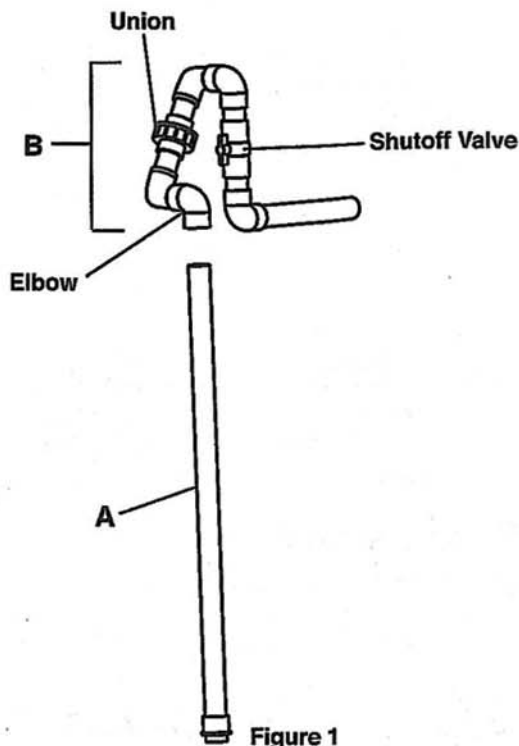

Figure 1
**Step 4:** Insert the preassembled 40" PVC pipe with pipe adapter (Figure 1, part A), pipe adapter end first, into the pump. Lower the pump into the pump chamber of the housing. Note: The chamber is designed to handle either one or two STEP pumps. A single pump can be located in either side of the chamber. Place a mark on PVC pipe "A" at the height necessary to be below frost line, per local code.
**Step 5:** Position the rest of the discharge kit (Figure 1, part B) with the open end of the elbow beside the pipe marking. This determines the discharge exit location on the riser. Mark the location where the discharge pipe will exit on the riser.
**Step 7:** Cement the remaining loose joints in the discharge kit (figure 1, part B). Several joints in the discharge kit are left uncemented at the factory to allow adjustments during installation. Verify that all joints are properly cemented and leak free before putting the filter into service.